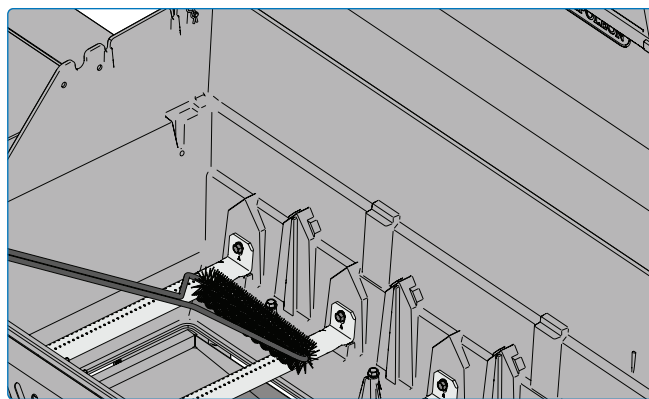

Fig. 21
5. Sweep all remaining debris from inside the grill into the drip pan (**Fig 21, 22**).